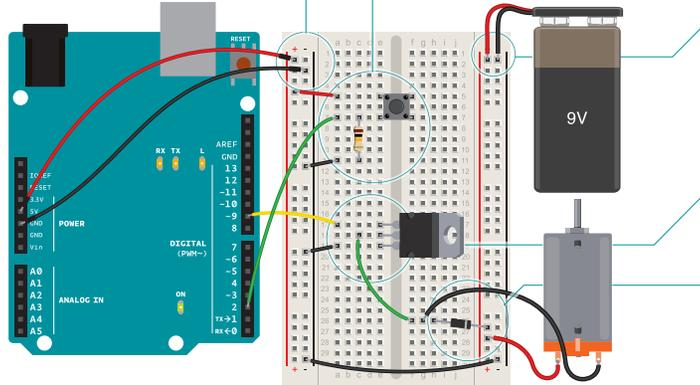

Fig. 1
- 3 When using circuits with different voltages, you have to connect their grounds together to provide a common ground. Plug the 9V battery snap into your breadboard. Connect ground from the battery to ground of your Arduino on the breadboard with a jumper, as shown in Fig. 1. Then attach the motor's free lead to the 9V power.
- 5 Next, connect the motor's voltage supply to the motor and breadboard. The last component to be added is the diode. The diode is a polarized component, it can go only one way in the circuit. Notice that the diode has a stripe on one end. That end is the negative end, or cathode, of the diode. The other end is the positive end, or anode. Connect the anode of the diode to the positive end, or ground, of the motor and the cathode of the diode to the power of the motor. See Fig. 1. This may seem backwards, and in fact, it is. The diode will help prevent any back-voltage generated by the motor from going back into your circuit. Remember, back voltage will flow in the opposite direction of the voltage that you supply.